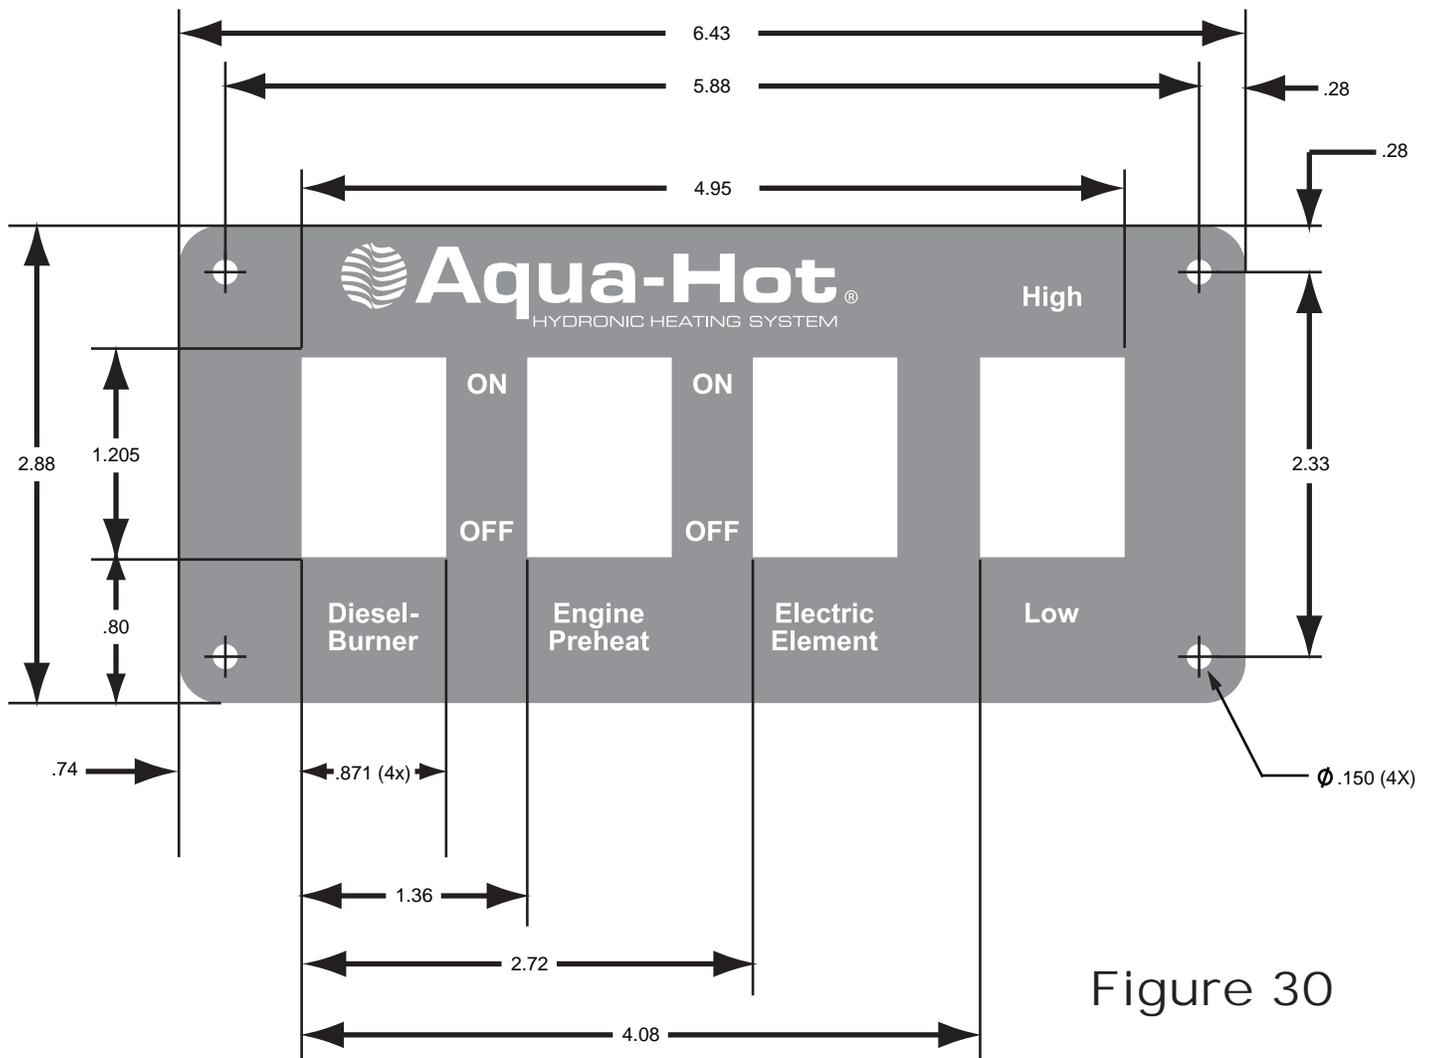

Figure 30
1. Cut out an opening for the switch panel plate. The Aqua-Hot 600-D requires a 5 inch W x 1.25 inch H opening. Reference Figure 30.
2. Once the switch panel has been completely wired, permanently mount the switch panel in place. Reference Figure 30.